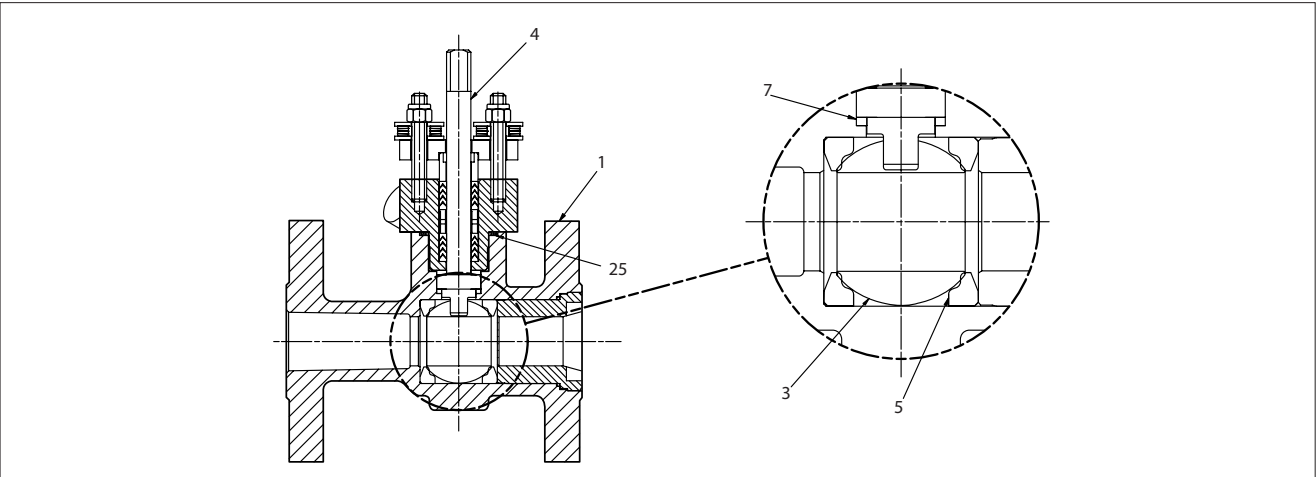
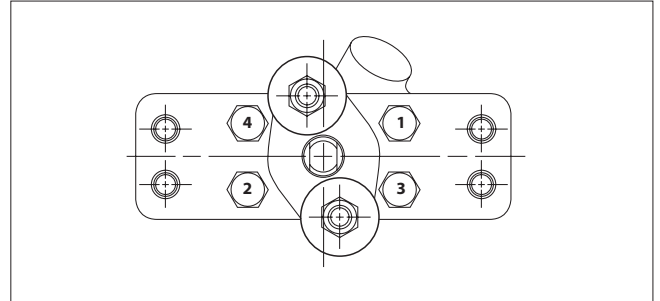
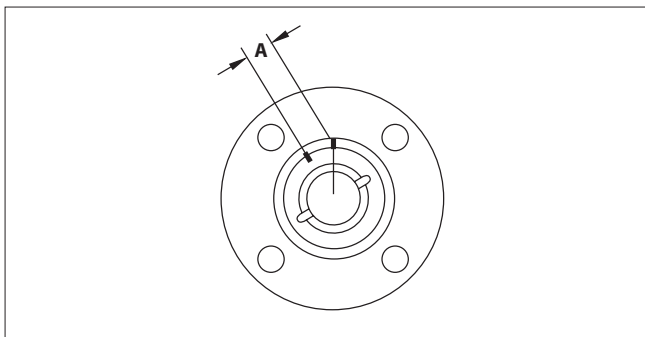

Figure 1.
Figure 2.
Figure 4.
1. Slide one valve seat (5) sideways into the body (1) to below the stem bore, and tilt it into place so that the proper surface (see **Figure 1**) will be adjacent to the ball (3), being careful not to cut or scratch the seat.
2. Place the stem retainer seal (25) on the body and the lower stem bearing (7) in the bottom of the stem bore in the valve body.
3. Place stem retainer sub-assembly (Refer to the **STEM SEAL AND BEARING REPLACEMENT** Section for assembly of stem retainer subassembly.) onto the body and assemble using hex head cap screws (18). Using an alternating method (see **Figure 2**), tighten the cap screws evenly with the required torque in (**Table 2**), until stem retainer (30) is seated properly on the valve body (1). Use a calibrated torque wrench. No gaps will be present between the stem retainer (30) and the valve body (1) around the entire surface.
5. Insert the ball (3), rotating it onto the stem (4) in the closed position. If necessary, turn the stem blade to align with the ball slot.
6. Insert the second seat (5) so that the sealing surface of the seat is towards the ball (see **Figure 1**).
7. Insert the body seal (6) and gently press it into the groove in the body.
8. Using a thread lubricant compatible with the media, screw the insert (2) into the body and tighten with the required torque (per **Table 2**). If a torque wrench is not available, tighten the insert the same number of turns as in step 4, until the marks line up according to dimension "A" (shown in **Table 3**) and illustrated in (**Figure 4**). The insert must be tightened until the spacing between the marks is no more than dimension "A".